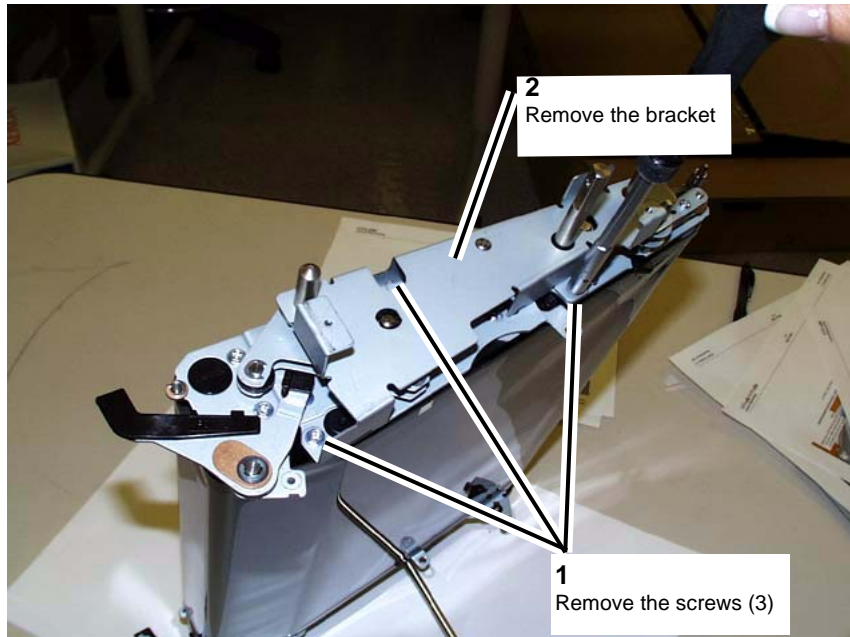

Figure 5 Removing the inner bracket
9. Remove the inner bracket. (Figure 5)